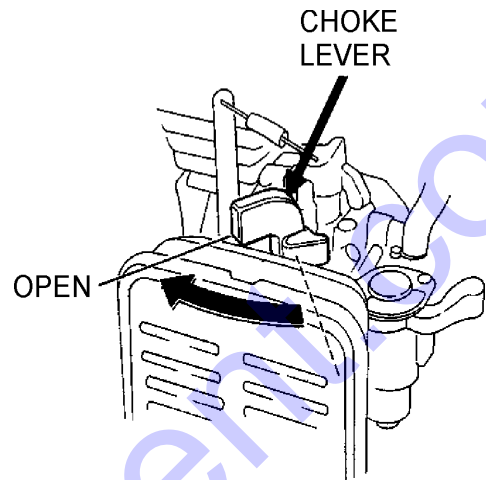

Figure 22. Engine Choke Lever (Open)
3. Place the **choke lever** (Figure 22) in the "OPEN" position if starting a **cold** engine.